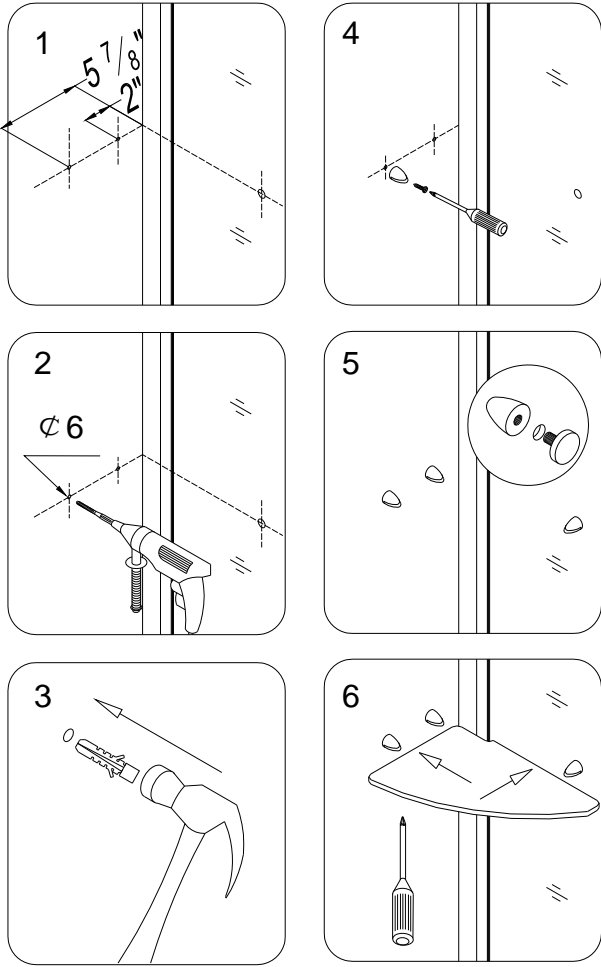
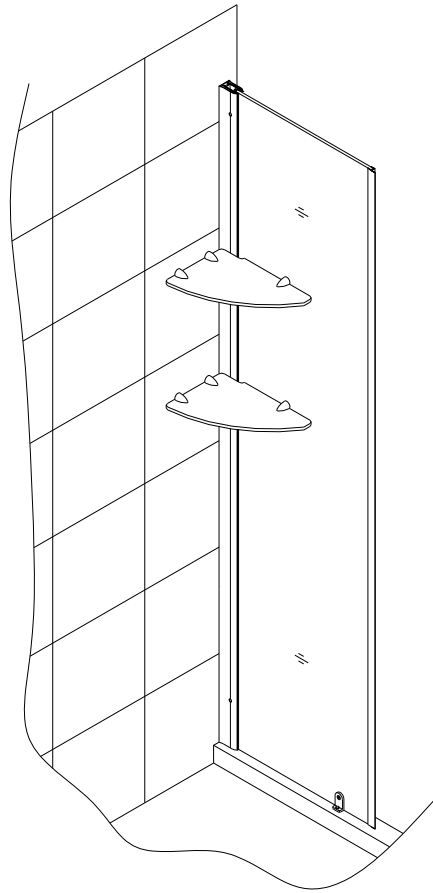

Fig 19
Fig 20
23. Refer to Fig 18 to mark the drill holes for the **Glass bracket (23)**. Make sure the marks are clear and visible. Drill holes on the marks and insert **Wall anchors (25)**. Using **Flat head screws ST4.2x25 (26)** to attach the **Glass brackets (23)** to the wall. Install the **Glass brackets (with nut) (24)** onto the **Stationary glass (22)**. Install the two **Glass shelves (32)** to the stationary glass. See Fig 19 and Fig 20 for details.